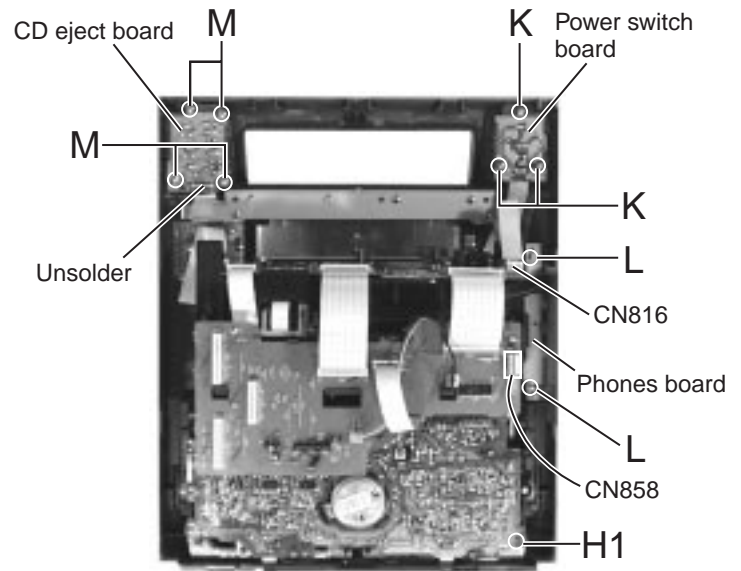

Fig.16
■ Removing Each Board of the Front Panel Assembly (See Fig.16 and 17)